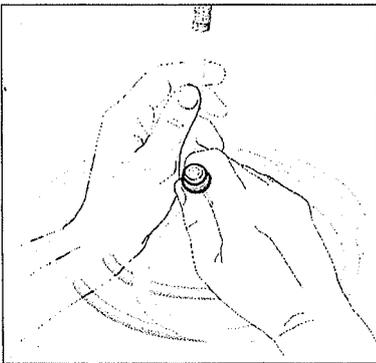

Figure 7. Inspect the fiber optic light cable
- Aim one end of the cable toward a bright light, such as a room light, and inspect the other end for damaged fibers, e.g., black dots or dark gray areas (Figure 7). A combination of broken fibers in the cable or endoscope will result in reduced light transmission. The combined percentage of dark spots viewed in the cable end should not exceed 20% of its total area.